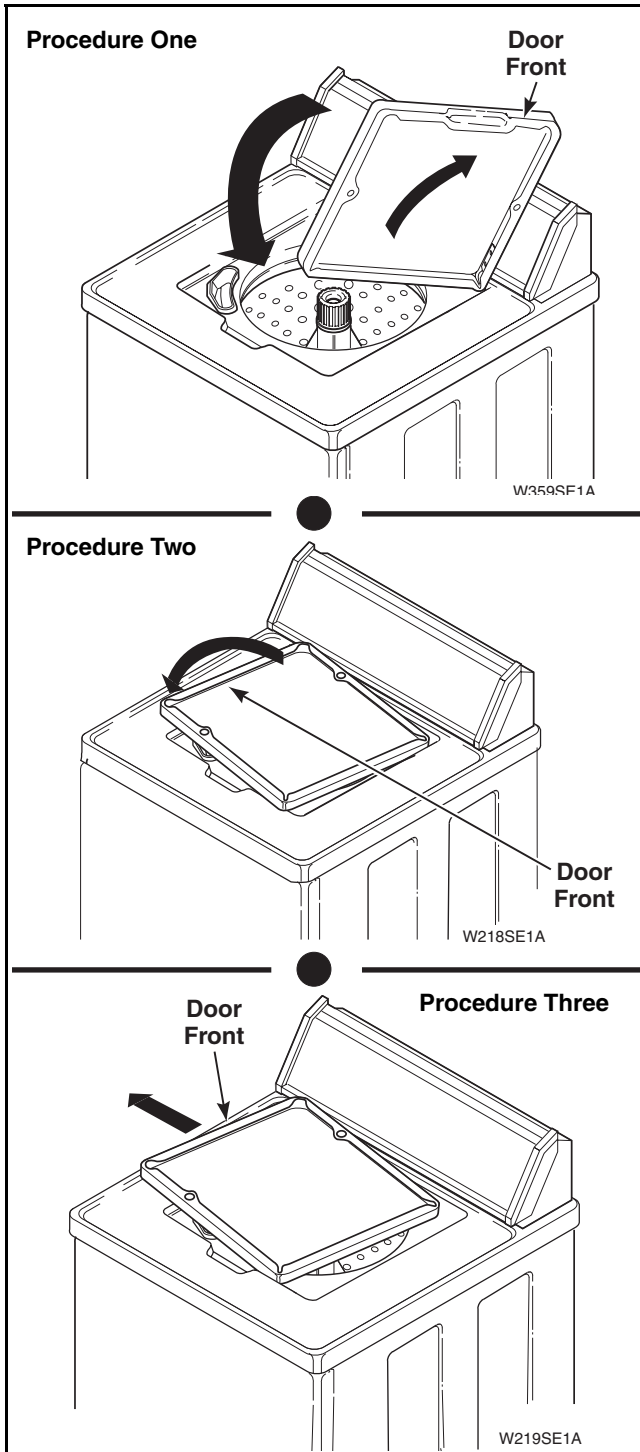

Figure 11
- c. Raise loading door to a nearly vertical position, disengage loading door from loading door clip, swing left side of door toward front of washer. Refer to *Figure 11*, procedure one.
- d. Rotate loading door so door is upside down. Refer to *Figure 11*, procedure two.
- e. Carefully remove loading door, right hinge and bushing from cabinet top. Refer to *Figure 11*, procedure three.